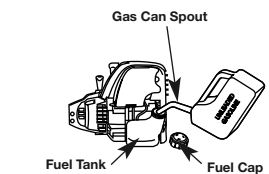

Fig. 7
- Remove the fuel cap (Fig. 7).
- Place the gas container's spout into the fill hole on the fuel tank (Fig. 7) and fill the tank.